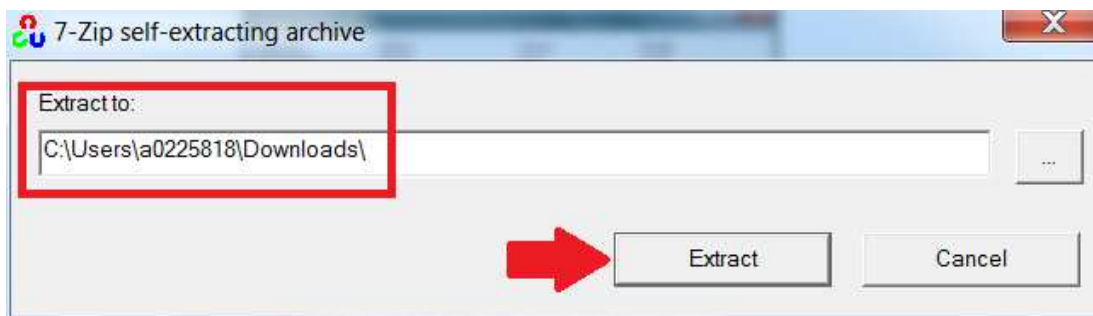

Figure 22. Extract OpenCV
2. Choose a suitable place to extract the files and select “Extract” as shown in Figure 22.